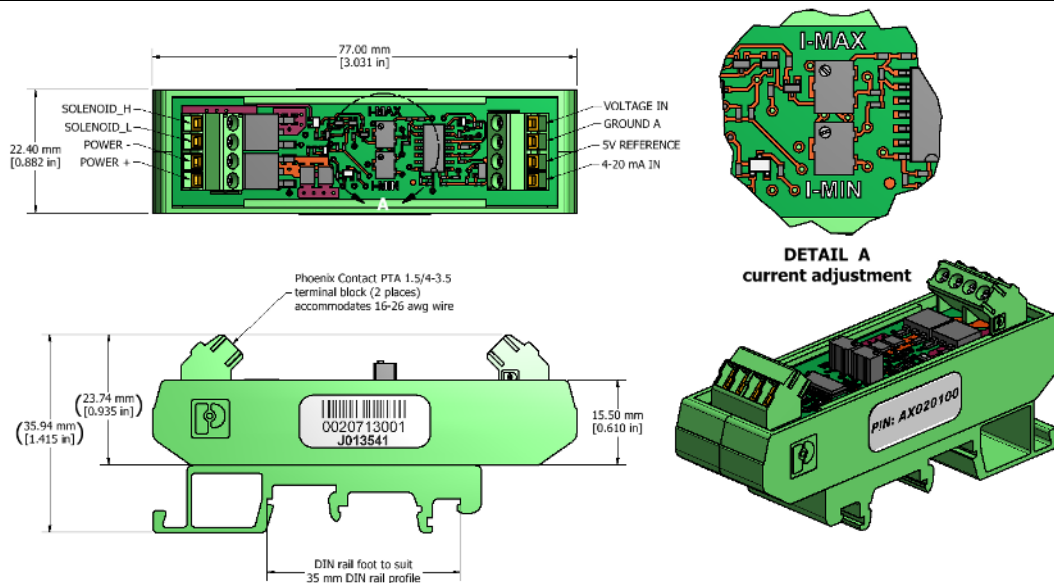

Figure 1.0 - Dimensional Drawing
| Electrical connection | 2 4-pin Terminal Blocks Phoenix Contact P/N: PTA 1.5/4-3.5 Accepts 16-26 AWG wire. For pinout, see Figure 1.0. |
| Enclosure and Dimensions | PA66 Nylon, Phoenix Contact P/N: UMK-SE 11, 25-1-2970442 (housing) and UMK-FE VE 500-29063654 (DIN rail foot) Mounts on DIN rail NS 32 or NS 35/7.5 For dimensions, see Figure 1.0. |
- Connect the power supply, command potentiometer or input signal and valve solenoid as shown on Figure 1.0 and in Section 2.4. Put isolation sleeves on any unused wires for the potentiometer.
Connect the cable conductors to the power supply, input signal or potentiometer and load, as follows and per Figure 1.0.
The location of the trim pots for the set up adjustments are shown in Figure 1.0.